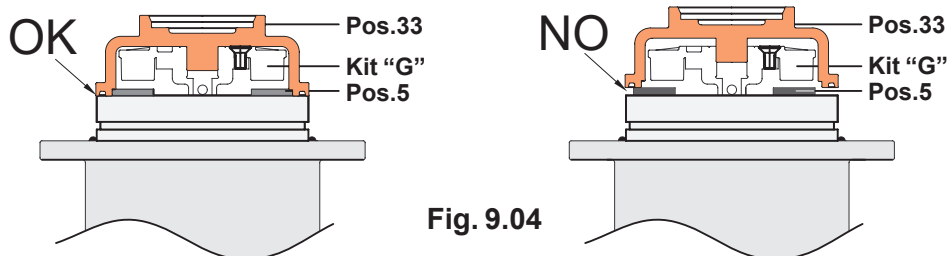

Fig. 9.04
9.2.04) Fit the diffuser on the impeller kit "G" making sure to position the washer pos.5 (see Fig.9.04) correctly.